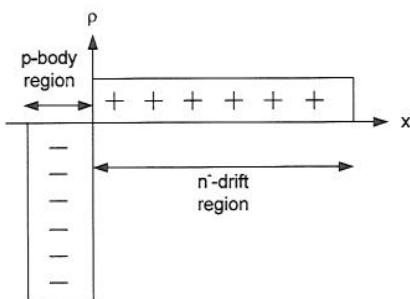

Figure 1 Charge distribution in an abrupt *p*-*n*⁻ junction
- i) Assuming an abrupt junction between the *p*-body region and the *n*⁻-drift region in the power MOSFET, as shown in Figure 1, what is the minimum length required of the drift region to block 200 V? You can assume that the vast majority of the voltage is blocked in the *n*⁻-drift region and that the doping concentration in each region is constant. The maximum field strength in silicon before avalanche breakdown is 10 MV/m, the permittivity of free space is 8.85×10^{-12} F/m and the relative permittivity of silicon is 11.7. [3]